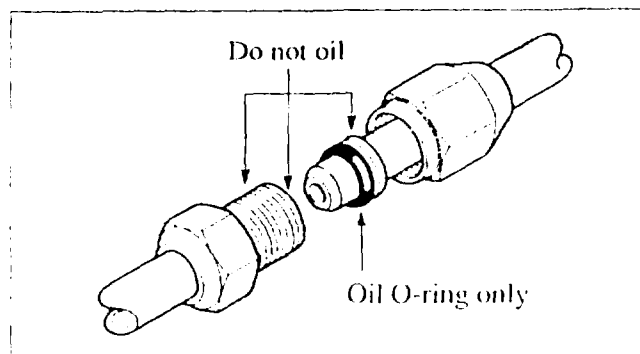

Figure 2: Oil Locations
3. Lightly apply oil to the O-ring with refrigerant oil. Do not oil the threads or connecting hose seat (figure 2).